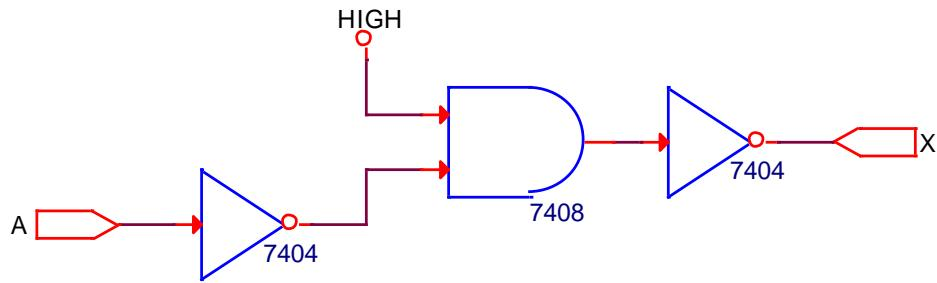

Figure 4.9
5. Write the Boolean expression for the circuit shown in Figure 4.9. Then, using DeMorgan's theorem, prove that the circuit is equivalent to that shown in Figure 4.1.